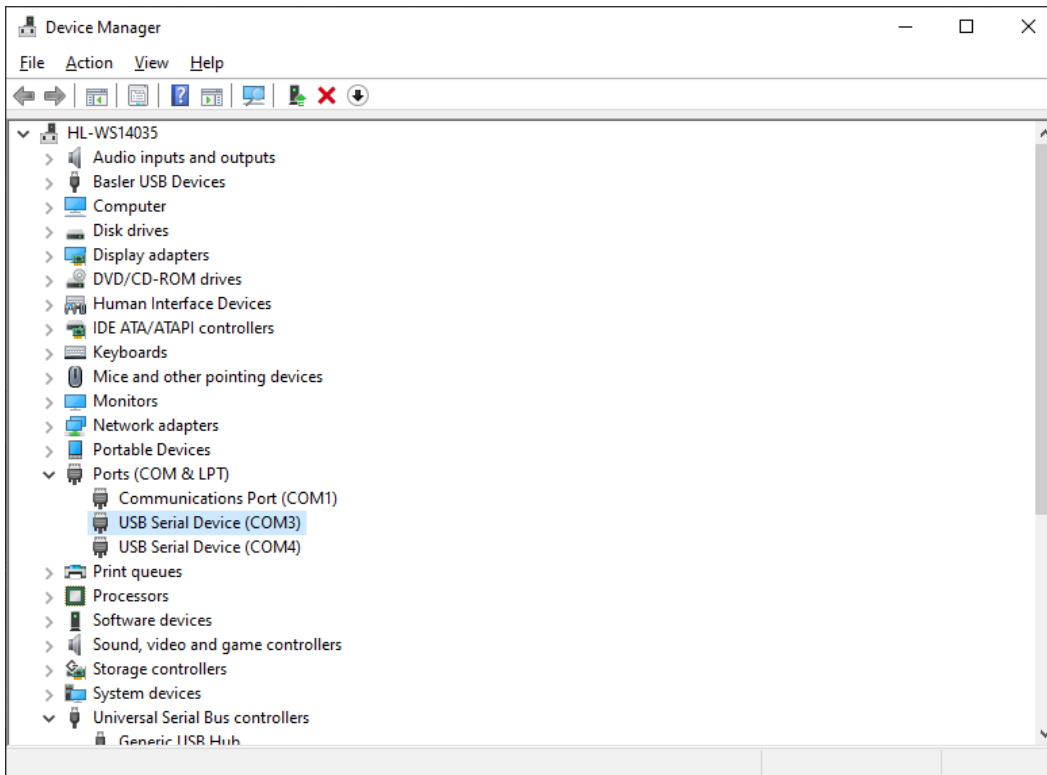

Figure 64-3. Device Manager
- Step 2. Open the Windows® Device Manger as shown in Figure 64-3. Right-click on USB Serial Device (COM#) for the BESTCOMSP*Plus* connection and select Update Driver.